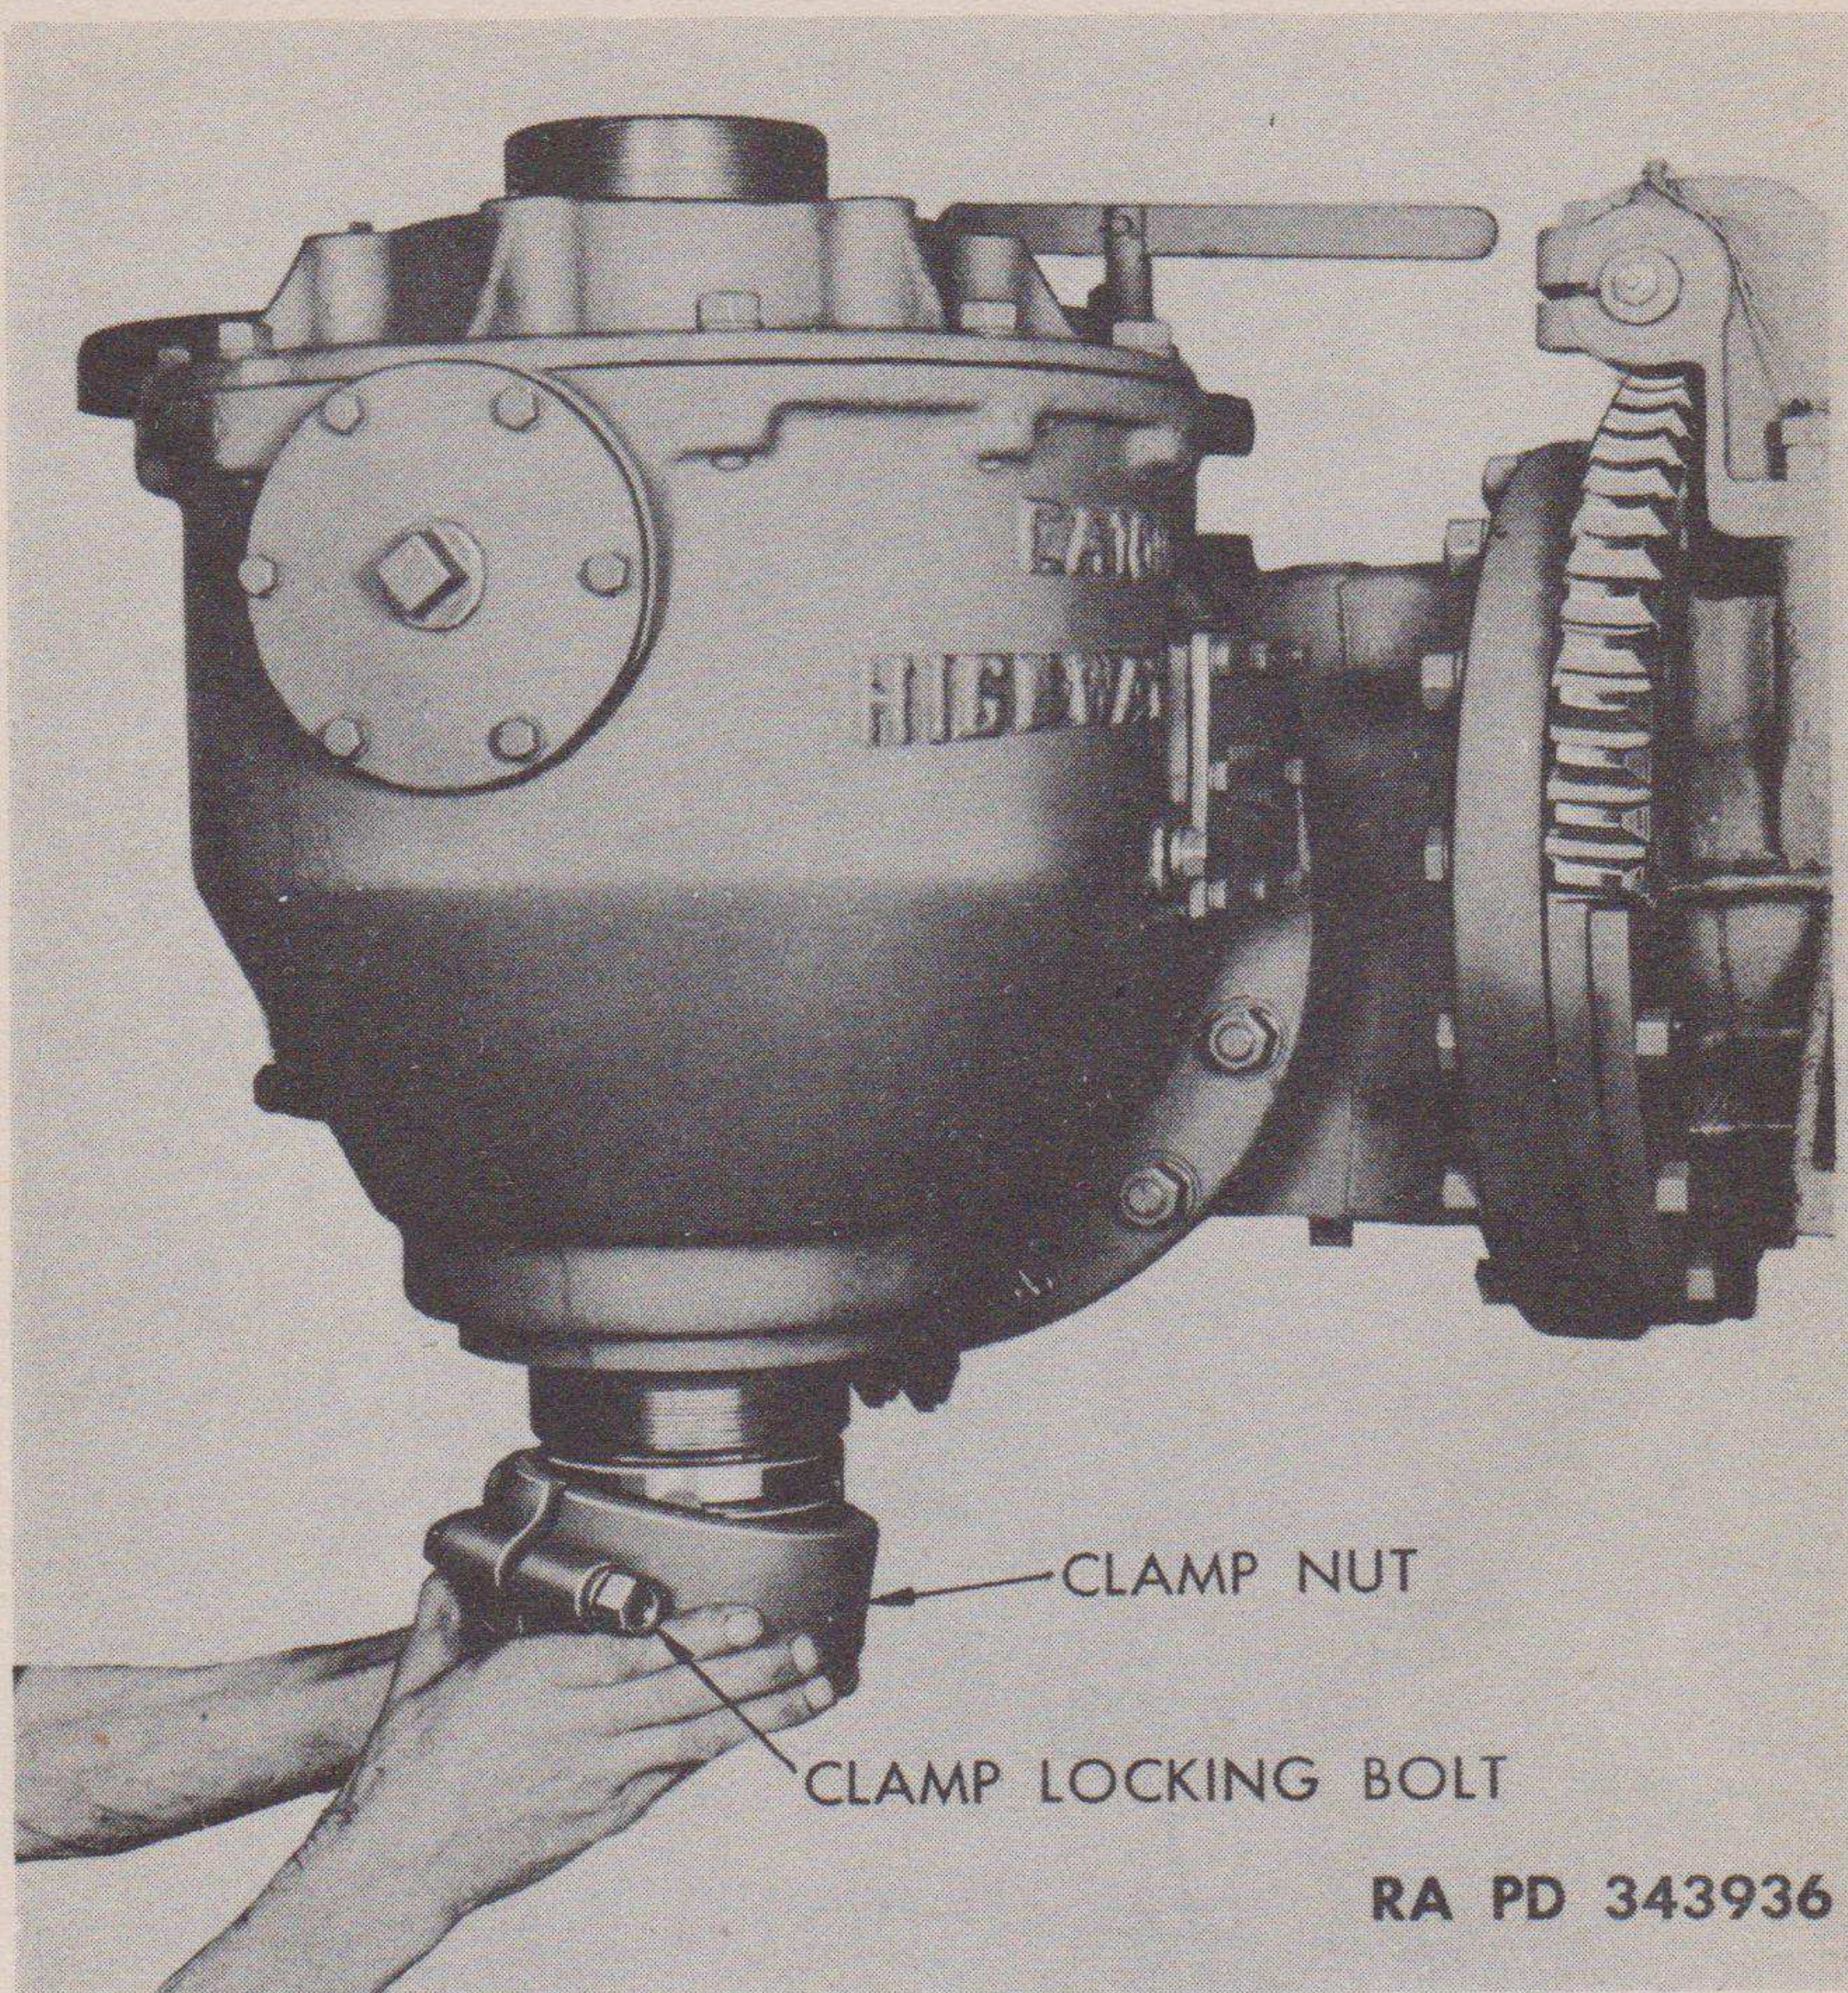

Figure 75—Removing lower clamp nut
(5) **LOWER CLAMP NUT** (fig. 75). Loosen nut on lower clamp locking bolt, and unscrew lower clamp nut from end of boring head.
(6) **LOWER CLAMP NUT.** Assemble lower clamp nut on end of boring head, and tighten nut on clamp locking bolt. (See fig. 75.)